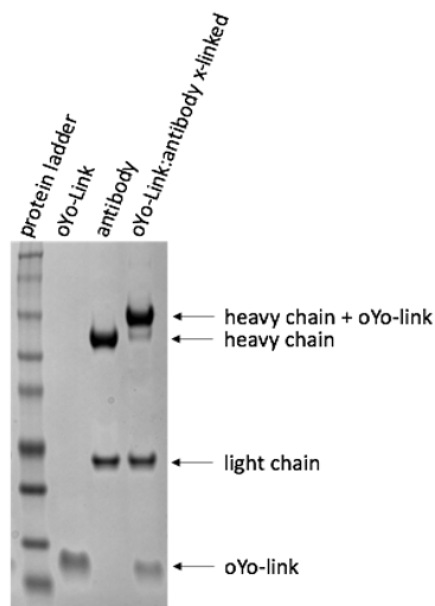

Figure 1: Photo-crosslinking efficiency shown by SDS-PAGE
- In general, load 1 µg of unconjugated antibody and 1 µg of conjugated antibody into two different wells of a gel for SDS-PAGE. Check your protein gel and staining system's recommendations for protein loading, which may deviate from 1 µg. Under reducing conditions, the oYo-Link-conjugated IgG heavy chain will appear as a higher molecular weight band (i.e. shifted upward) compared to the unconjugated IgG heavy chain, as shown in **Figure 1 below**.